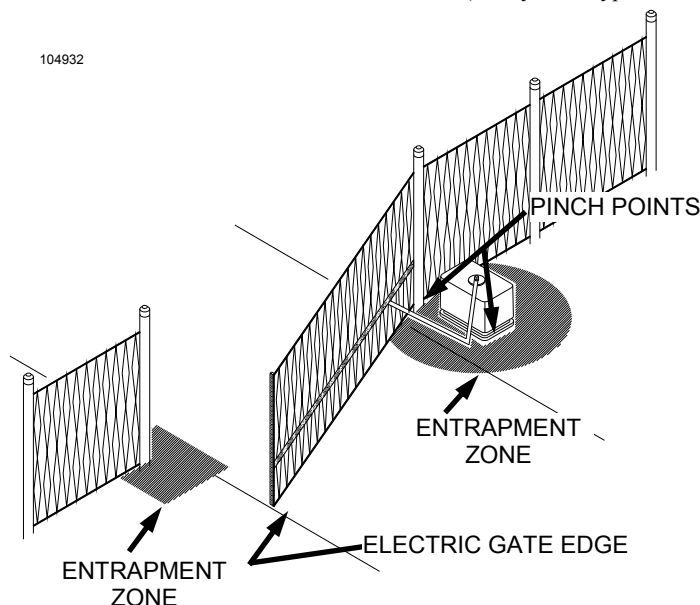

Figure 3
- Use the illustration at left (Figure 3) and the information and diagrams on pages 14, 15, and 16 to minimize the risk of injury in your design of the swing gate operator system. **IDENTIFY THE ENTRAPMENT ZONES AND PINCH POINT AREAS IN YOUR GATE.** Design the gate installation to minimize the risk of entrapment in these areas. Install additional safety equipment such as edge sensors and photocells to further minimize risk. All entrapment zones are required to be protected.
- **Entrapment Zones:** Design in personal entrapment protection devices to protect people from entrapment in the zones shown in Figure 3 and the information and diagrams on pages 14, 15, and 16.
- **Pinch Points:** Use protective measures (guards, padded edges, etc.) to protect people from the pinch points shown in Figure 3 and the information and diagrams on pages 14, 15, and 16. Attach roller guards in cantilevered gate systems to minimize the risk of hands being caught between the top of the gate and the roller.
- **SWING GATES HAVE THE POTENTIAL HAZARD OF HANDS AND FINGERS BEING PINCHED** between the gate edge and the post to which the gate is mounted. It is recommended that the hinges be mounted so that this opening increases as the gate swings open. **PROTECT THIS "PINCH POINT" SO THIS HAZARD IS AVERTED.** See Figure 3.
- **CONSIDER ALL OTHER "PINCH POINTS" IN YOUR DESIGN** of the gate system. Observe the arm as it opens and the two arm pieces swing past each other. Use protective measures to reduce hazards at this location. Restrict access to the arm motion. See Figure 3.